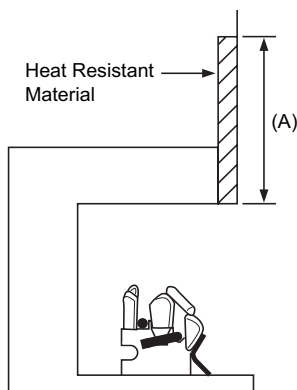
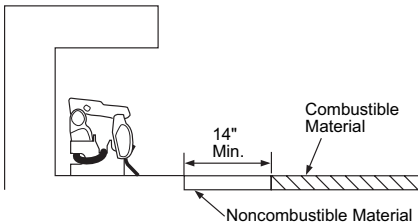

Figure 5 - Heat Resistant Material (Slate, Marble, Tile, etc.) Above Fireplace
Figure 7 - Minimum Fireplace Clearances If Installed at Floor Level
You must have noncombustible material(s) above the fireplace opening. Noncombustible materials (such as slate, marble, tile, etc.) must be at least 1/2" thick. With sheet metal, you must have noncombustible material behind it. Noncombustible material must extend at least 12" up (for all models). See Figure 5 for minimum clearances.
You must have noncombustible material(s) above the fireplace opening. Noncombustible materials (such as slate, marble, tile, etc.) must be at least 1/2" thick. With sheet metal, you must have noncombustible material behind it. Noncombustible material must extend at least 12" up. See Figures 5 and 6 and Figure 7 on page 11 for minimum clearances.
- If installing appliance on the floor level, you must maintain the minimum distance of 14" to combustibles (see Figure 7).